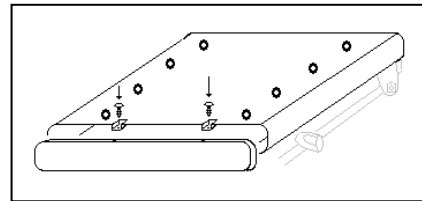

Fig. 2
5. Using the two black self-tapping screws provided, mount the plastic end cap into the front of the base frame. The end cap functions as a stop so that the mechanism will not slide completely off the track. (Fig 2)